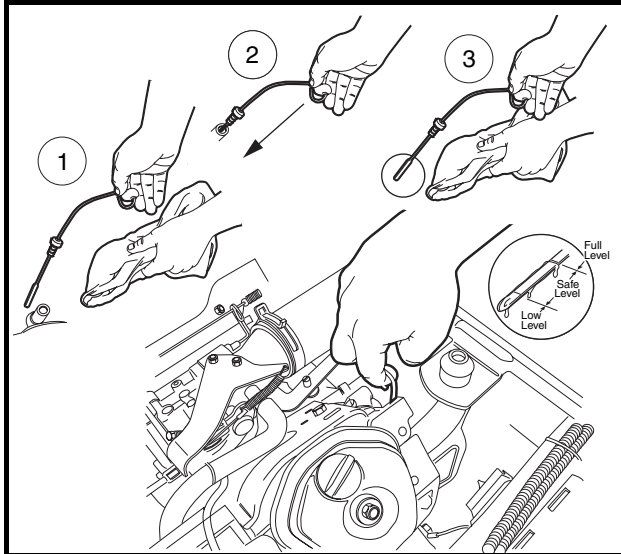
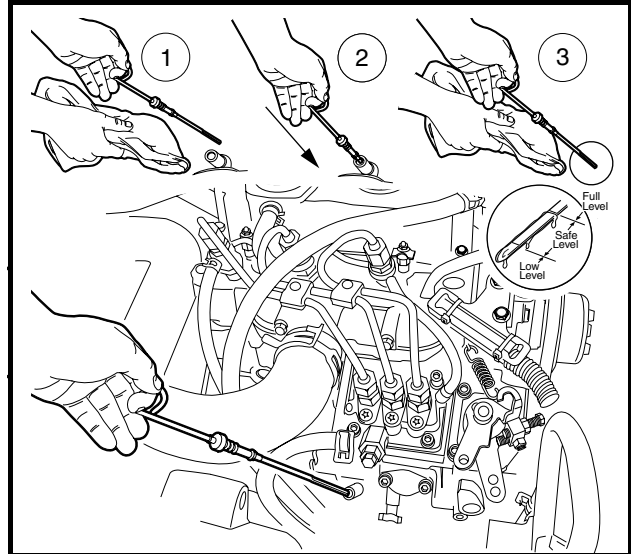
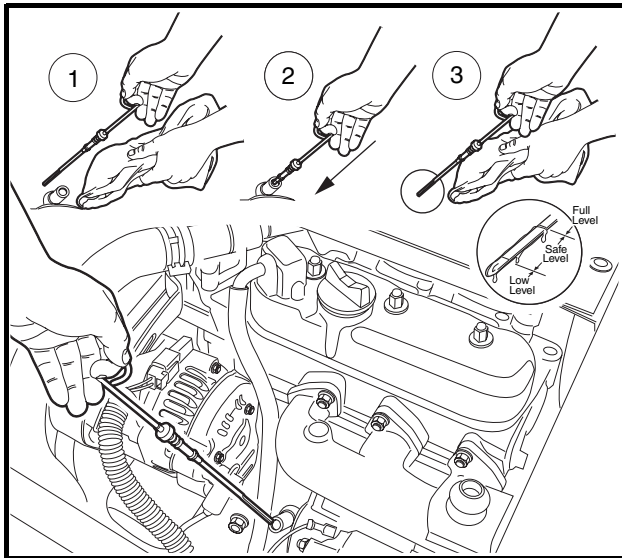

Figure 19 Engine Oil Level Check – Gasoline Vehicles
Figure 20 Engine Oil Level Check – Diesel Vehicles With Passenger-side Dipstick
Figure 21 Engine Oil Level Check – Diesel Vehicles With Driver-side Dipstick
1. Remove the oil level dipstick from the oil filler tube and wipe oil from the dipstick. **See Figure 19, Figure 20, and Figure 21 on page 35. See following CAUTION.**